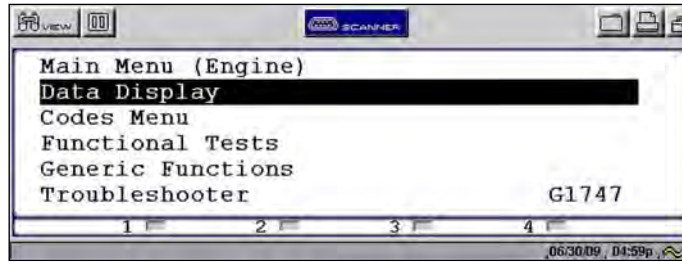

Figure 5-13 Sample main menu
- Press **N/X** until you reach the main menu (Figure 5-13).